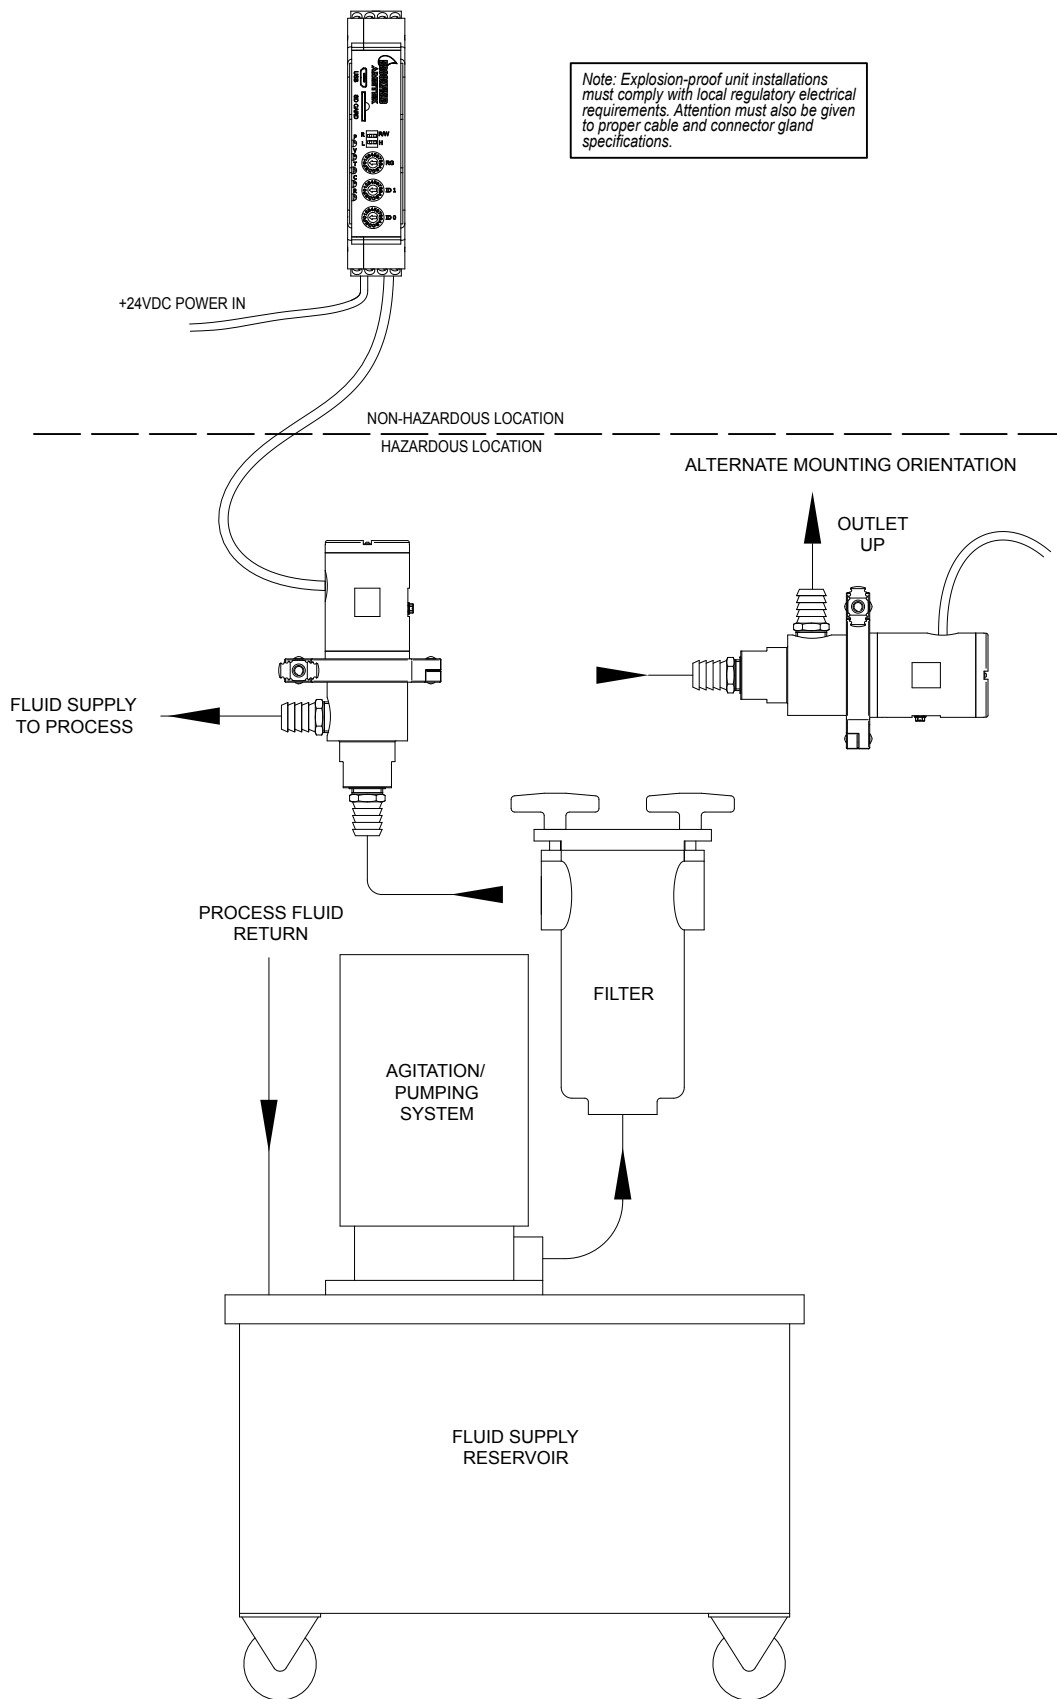

Figure 2-1: Typical FAST-10X System
- Install the viscometer so that it is always full of fluid. Mounting is recommended as shown in Figure 2-1. Avoid pipe configurations that allow air or solids to collect in the Sensor Chamber, as the viscometer only measures the viscosity of fluid located around the probe sensor.